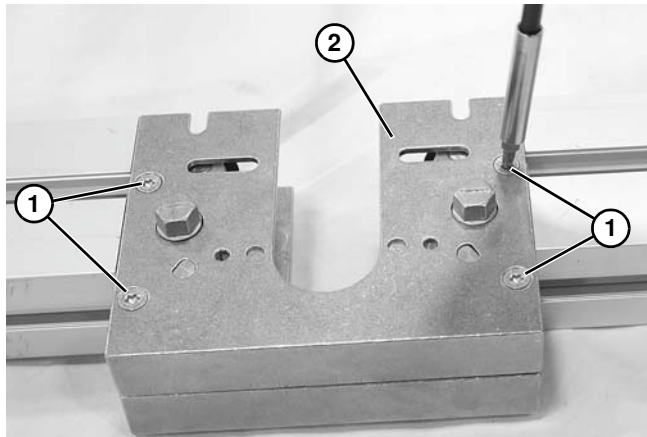

Figure 39
4. Remove torx screws (**Figure 39, item 1**) and mid drive side plate (**Figure 39, item 2**).